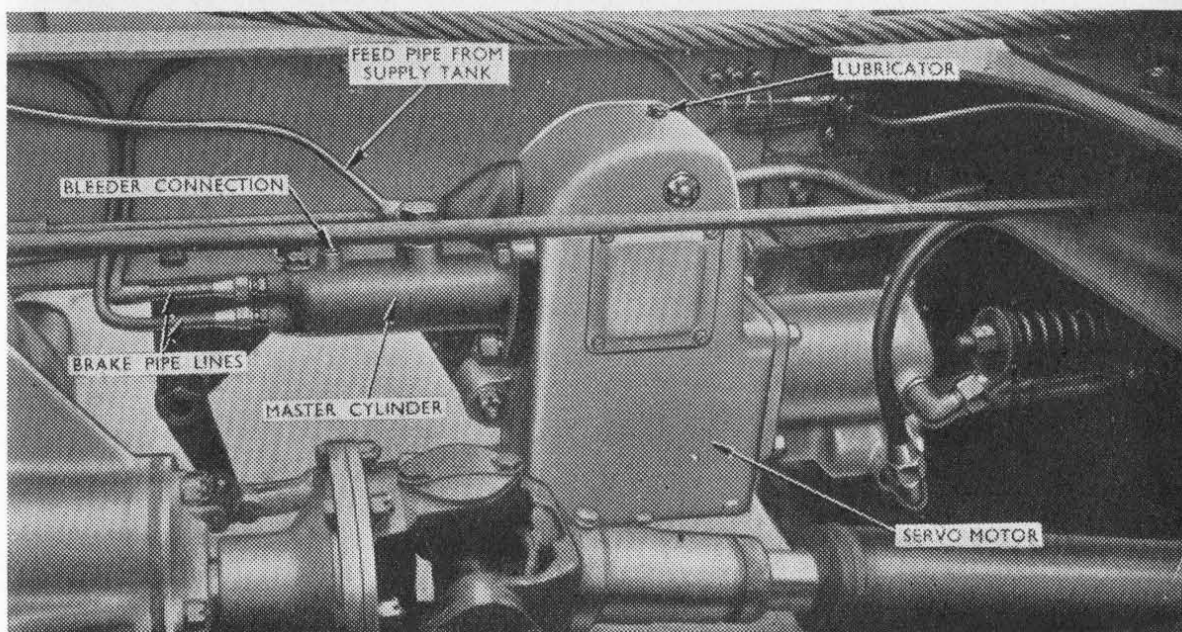

Fig. 30. Westinghouse Servo and Lockheed Master Cylinder.
- (i) Servo and Hydraulic Master Cylinder (*see Figs. 30 and 31*).